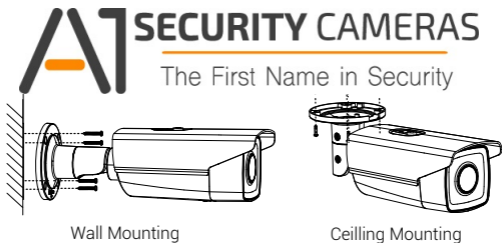

Figure 2-15 Install the Bracket onto the Wall
4. Fix the bullet camera to the installation surface with the supplied screws, as shown in Figure 2-15.